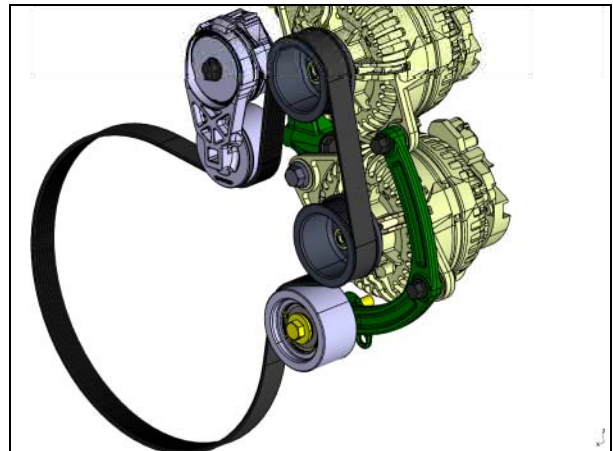

FIGURE 22
12. Install the alternator belt (**FIGURE 22**)